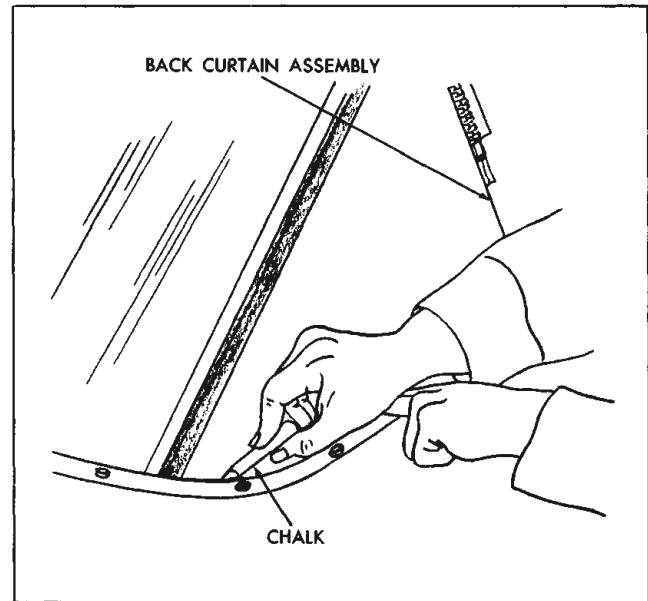

Fig. 22-44 Marking Back Curtain
19. Where required, place reference chalk mark on outer surface of back curtain along pinchweld finishing molding. Re-adjust back curtain assembly as required. (Fig. 22-44).